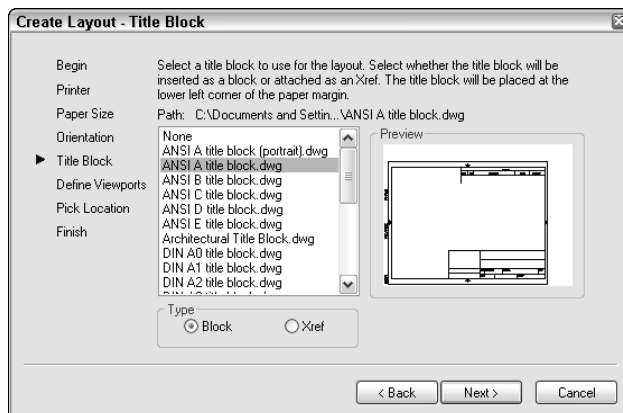

Figure 17-4: The Title Block screen of the Layout Wizard
6. On the Title Block screen, shown in Figure 17-4, choose a title block if you want to add one. You can add it as a block (see Chapter 18) or as an external reference (or xref — see Chapter 19).